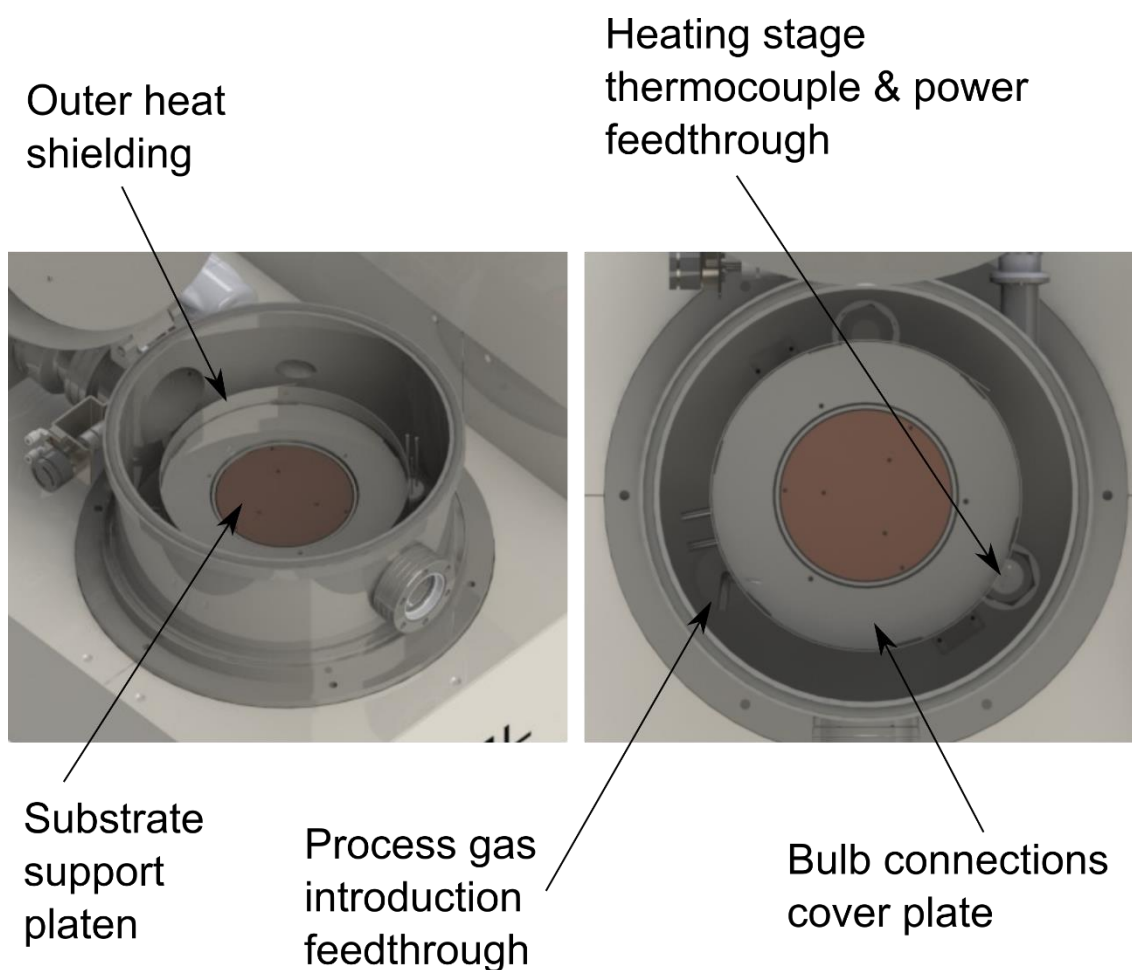

Figure 3: Model showing the quartz lamp substrate heating stage positioned on the baseplate inside the ANNEAL process chamber. Key features are labelled.
The substrate heating stage is mounted to the chamber baseplate, with power and thermocouple connections positioned on other feedthroughs to the side. Figure 3 is a model of the stage inside the chamber.
- 17. Connect the electrical mains IEC cable to the main unit (connection labelled in Figure 3) and insert the plug into a mains socket.